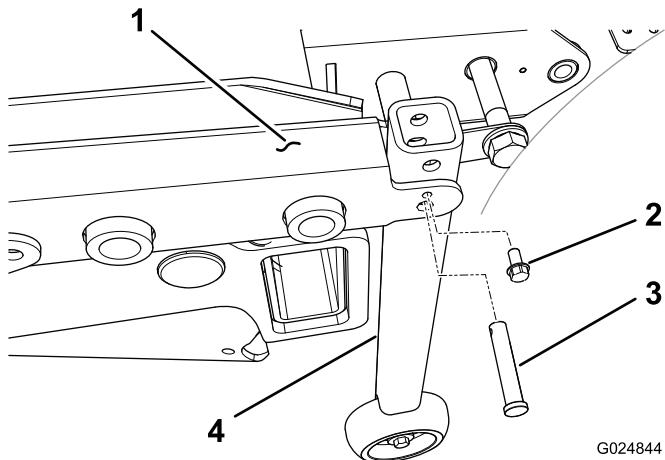

Figure 33
- On traction units that have a serial number prior to 31299999, install the vertical tube support assembly to each rear corner of the deck frame with a clevis pin and a 1/4 inch self-tapping screw (Figure 33)